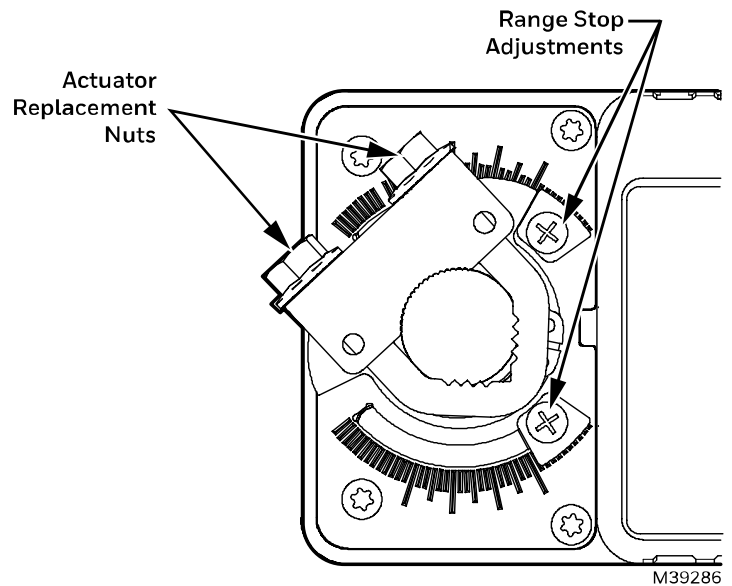

Figure 7. Adjusting the Range Stop and Replacing the Actuator
2. Using a small Phillips head screwdriver, loosen the set screw (Figure 7).
1. Loosen the nuts on the U-Bolt (Figure 7).